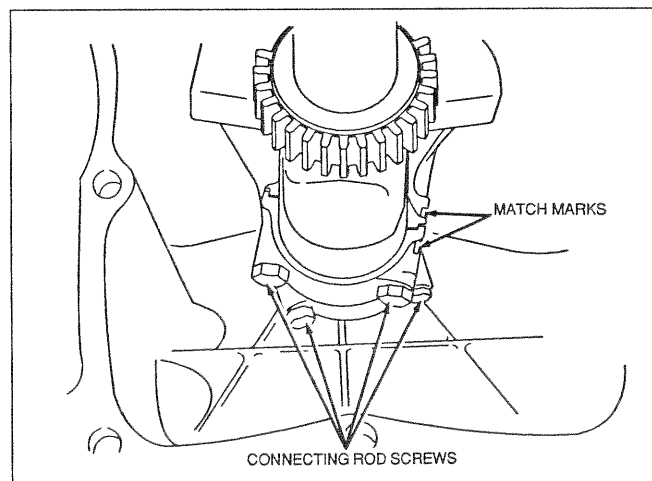

Figure 32. Connecting Rod Cap Match Marks
- Pull the connecting rod against the crankpin, then install the connecting rod cap with its match marks aligned (Figure 32).